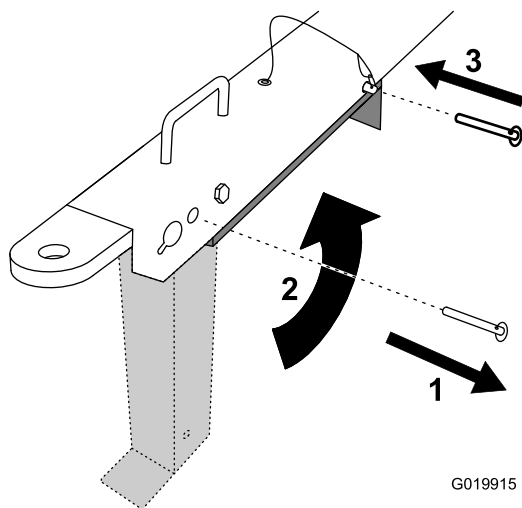

Figure 20
7. Pull the clevis pin out from the front stabilizer leg and the tongue (Figure 20).
8. Rotate the front stabilizer leg up into the tongue (Figure 20).
9. Push the clevis pin through the rearward hole in the tongue and the front stabilizer leg (Figure 20).